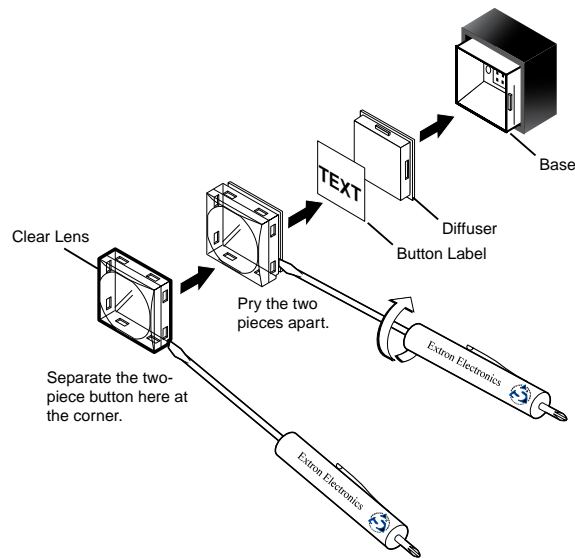

Figure 109. Illuminated Button Label Replacement
1. Remove the button from the matrix switcher; use a small, flat bladed screwdriver such as an Extron Tweeker to gently pry a button out from the front panel (see figure 109).